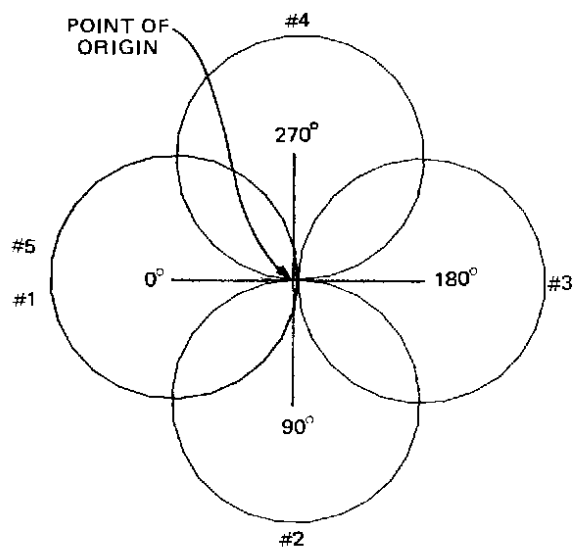

Figure 6-12. Circle Rotation
**Result** See Figure 6-12 and Detail E, Figure 6-22.